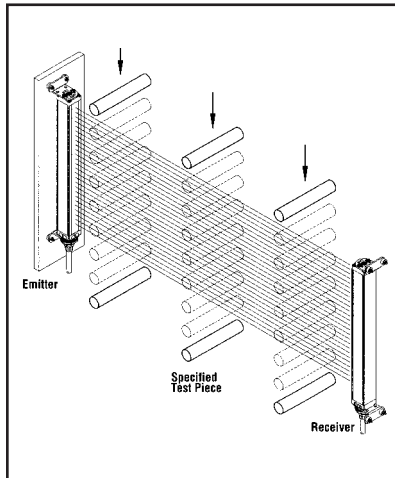

Figure 30. Use of test piece for trip test
- b) With the guarded machine at rest, pass the appropriate *specified test piece* downward through the defined area in three paths, perpendicular to the defined area: close to the receiver, close to the emitter, and midway between the emitter and receiver (see Figure 30). In each case, the red indicator must come ON and remain ON while the test piece is within the defined area. When the test piece is removed from the defined area, the green status indicator should come ON (or be flashing, if blanking is ON). If the green status indicator comes ON at any time when the test piece is within the defined area, check for reflective surfaces, or unguarded areas created by the use of fixed blanking (see Warnings, page 49). **Do not continue until the situation is corrected.** (See Section 3.2.2 and 3.2.4). For controller MUSF-DINT-1T2, perform a Key Reset to reset the latch after each pass of the test piece.